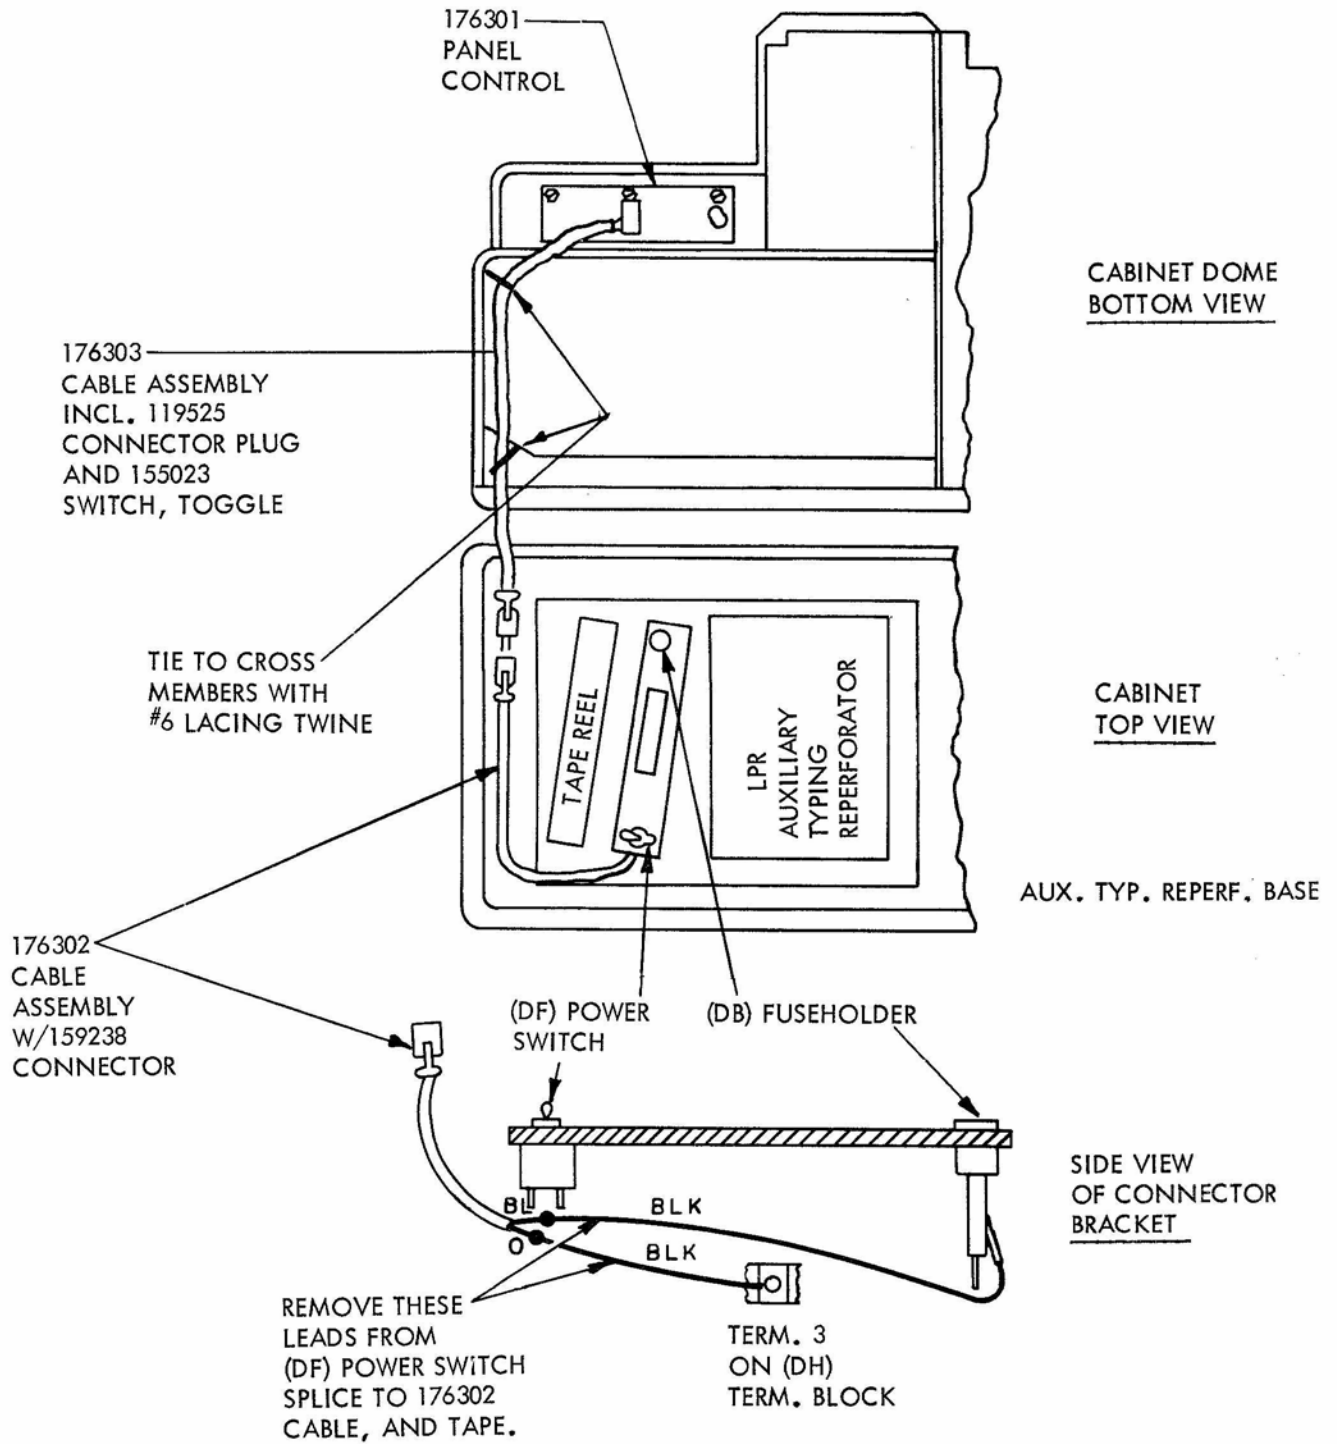
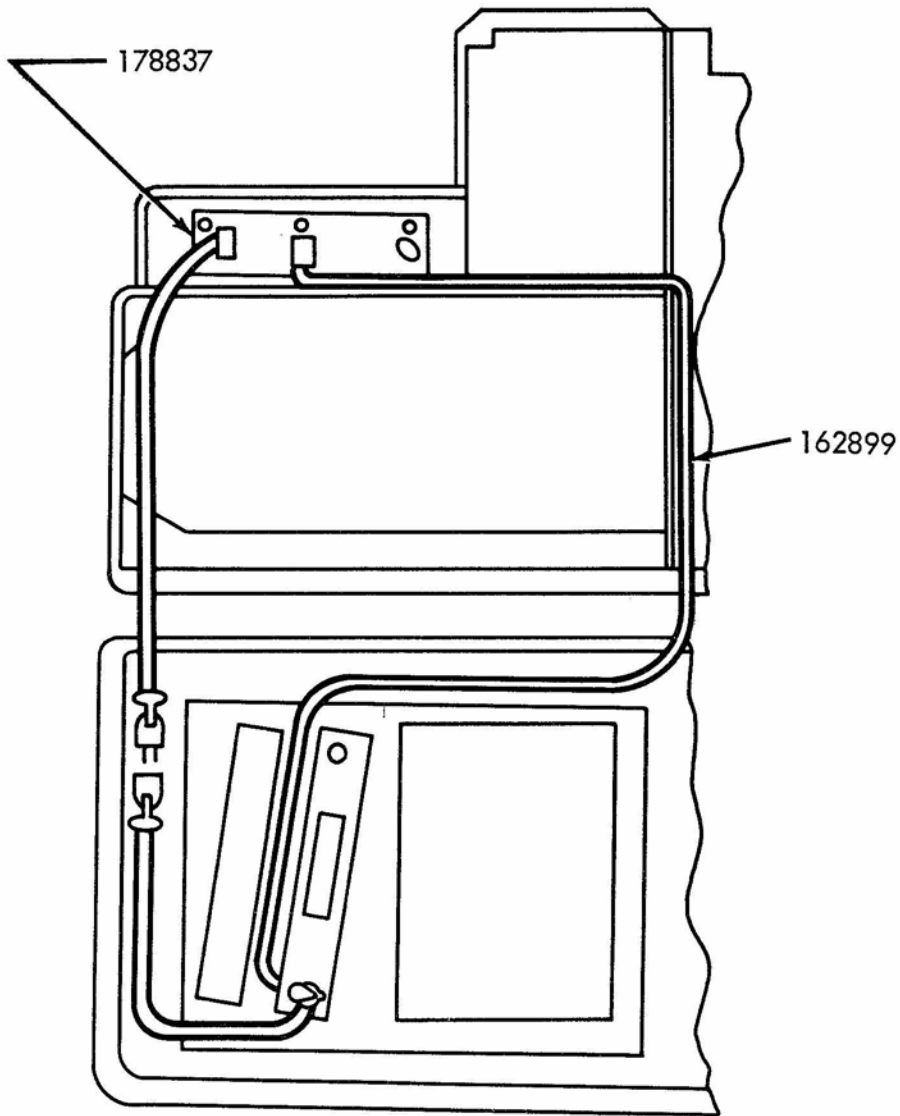
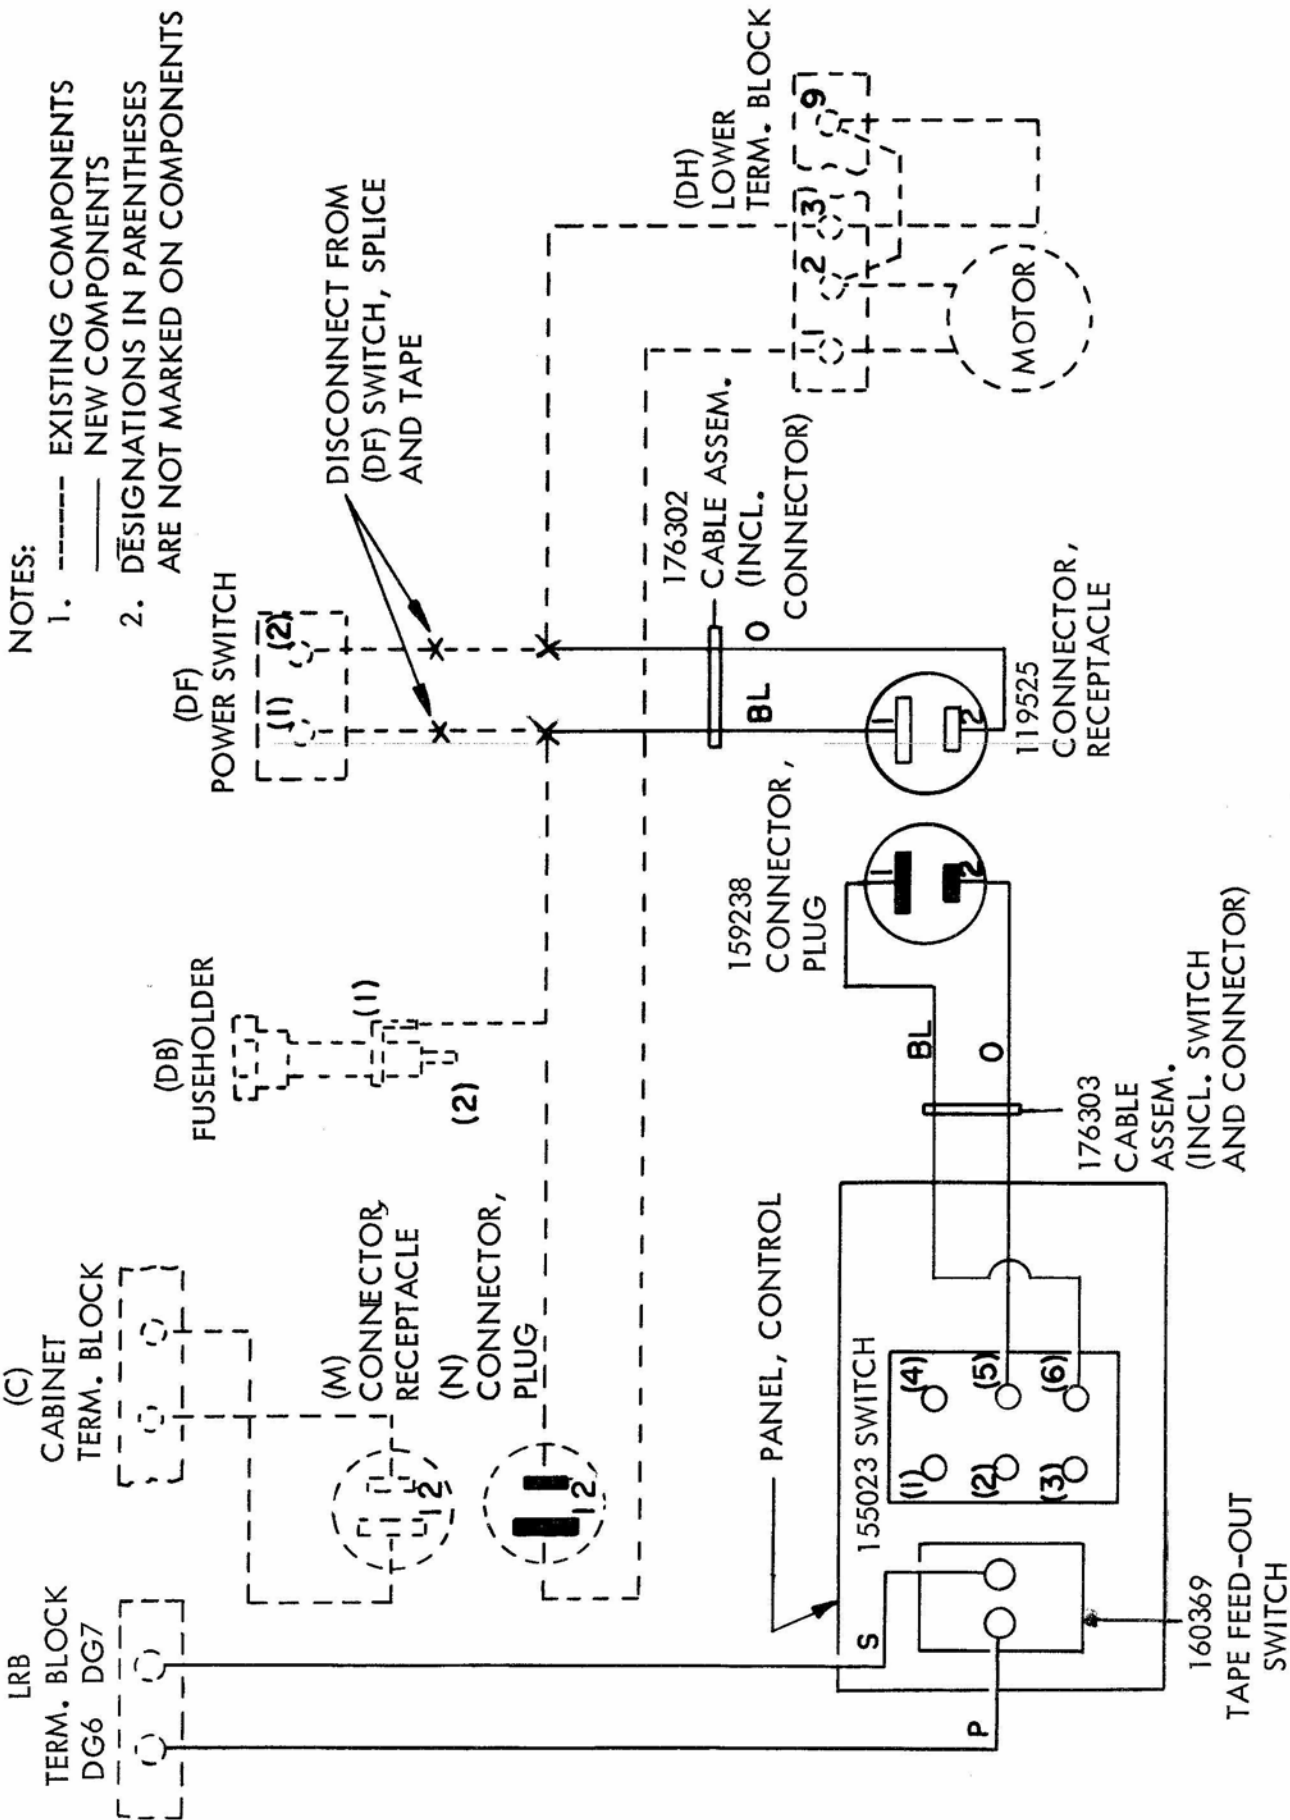

FIGURE 1
FIGURE 1A
FIGURE 2
a. 176300 Modification Kit (Figures 1, 2 and 3)
(1) Remove the three nuts, lock washers and flat washers which hold the blank panel to the cabinet. Remove and discard the blank panel.
(2) Mount the 176301 Control Panel in the long channel at the top of the control panel cut out, and over the screw studs below the cut out.
(3) Secure the 176301 Control Panel to the cabinet using flat washers, lock washers and nuts previously removed.
(4) Mount the 155023 Switch and the 120175 Instruction Plate in the hole provided in the control panel so that the threads are not visible on the outside of the control panel. Take care so as not to mar the nut or panel.
(5) Extend the 176303 Cable from the 155023 Switch to the left of the cabinet dome and secure to cross members at front and rear of dome with #6 lacing twine.
(6) Remove (DF) Power Switch from its mounting bracket on the reperformer base. Remove the two leads from the switch and splice to the 176302 Cable, as shown in Figure 2. Discard the switch.
(7) Connect the plug and receptacle to complete the circuit between the control panel switch and the reperformer motor circuit.
b. 178838 Modification Kit (Figures 1A, 2)
(1) Turn off power.
(2) Remove tape holding panel assembly from the Reperformer Base.
(3) Follow procedure in Paragraph 2.a.(6).
(4) If no tape feed-out switch is present, install the 162899 Cable Assembly (tie to existing cable) between the control panel and reperformer base terminals DG6 and DG7; if present, discard the 162899 Cable Assembly.
(5) Remove tape feed-out switch (if present) from the control panel of the cabinet.
(6) Remove and discard the existing control panel on the cabinet. Install the 178837 Control Panel on the cabinet.
(7) Reinstall the tape feed-out switch if removed in Paragraph 2.b.(5).
(8) Follow procedure in Paragraph 2.a.(4) and (5).
(9) Reinstall the tape holding panel assembly.
(10) Follow procedure in Paragraph 2.a.(7).
(ALSO SEE FIGURE 1)